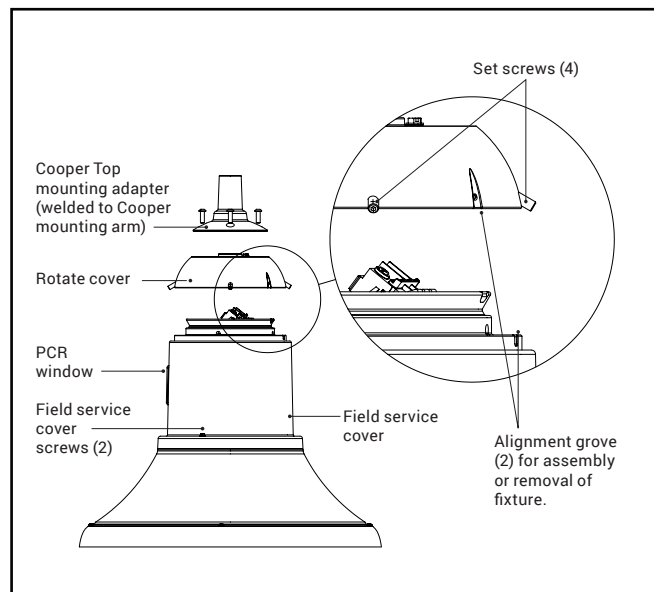

Figure 2.
2. Remove the Rotate Cover from the fixture by screwing out the (4) set screws to ¼" protrusion from the Rotate Cover. Rotate the Rotate Cover so that the grooves align. Lift off the Rotate Cover off of the fixture (Figure 2).
8. Lift fixture up to the Rotate Cover and align grooves (Figure 2). Rotate fixture so the grooves DO NOT align and the Street Side arrow (label on bottom of fixture) is towards street side.